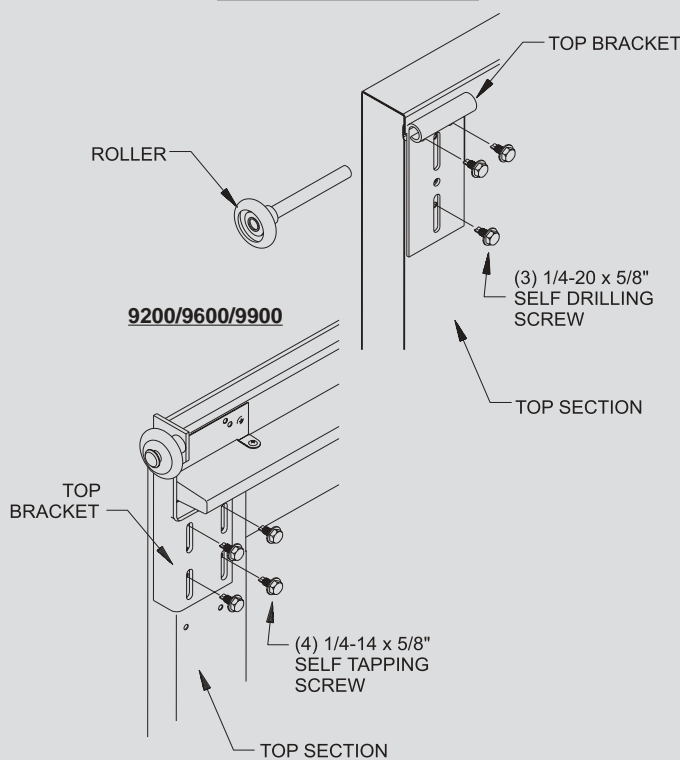

Fig. 6
Identify the top bracket supplied with your door. Place a roller into the top bracket as shown in **Fig. 6**. Push the top section of the door out against the jamb until the section is parallel with the other sections of the door. Twist the roller into the upper track and locate the top brackets against the section. Align the edge of the top bracket with the edge of the section.
For **other** door models, secure the top brackets to the section by placing (1) 1/4-20 x 5/8" self drilling screw through the lower slot in each bracket. Adjust the brackets if necessary and place (2) more screws through the top holes as shown in **Fig. 6**.